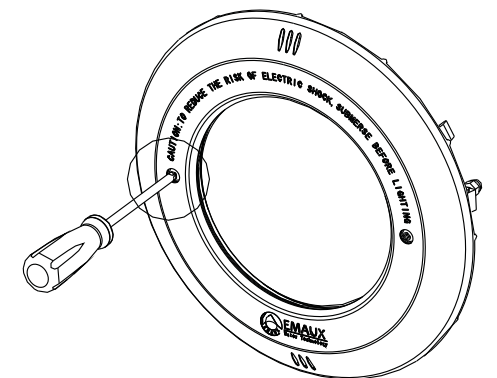

Figure 7
- 4) Screw in the two M6 x 75 screws on the lid until the fastening dog is secured in the inner walls of the niche as shown in figure 7.